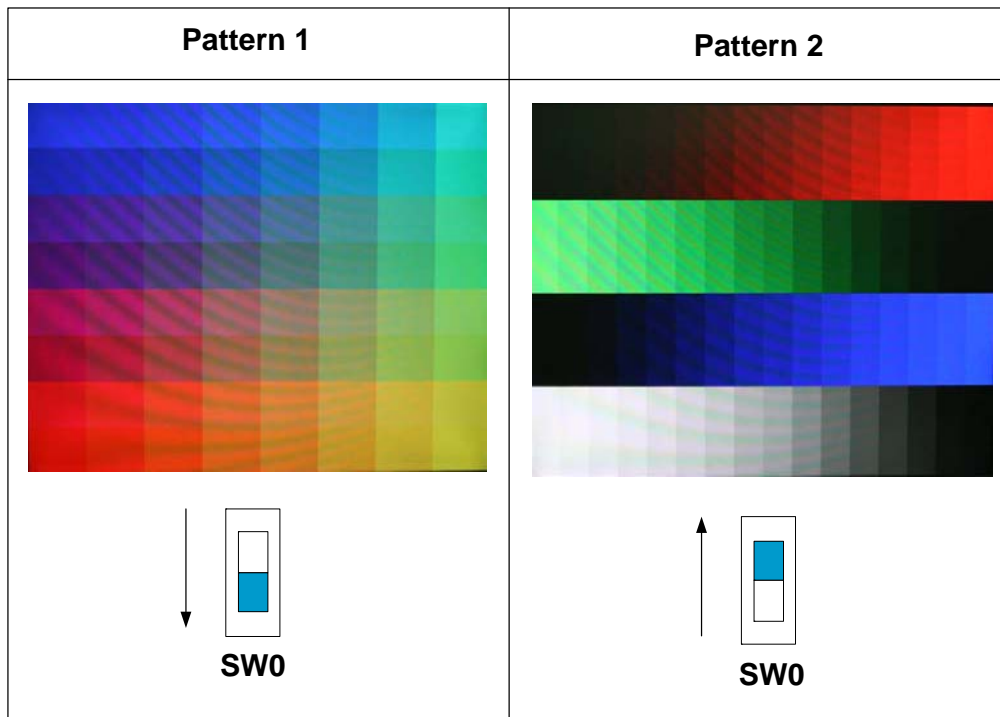

Figure 5-7. The output color pattern type for the demonstration
- Switch SW0 can change the color pattern (see Figure 5-7).